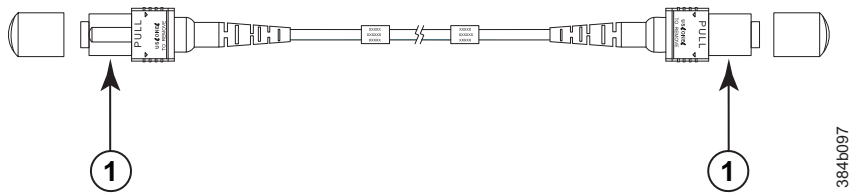

Figure 17. QSFP to QSFP standard cables
- QSFP to QSFP standard cables (Figure 17 on page 36)